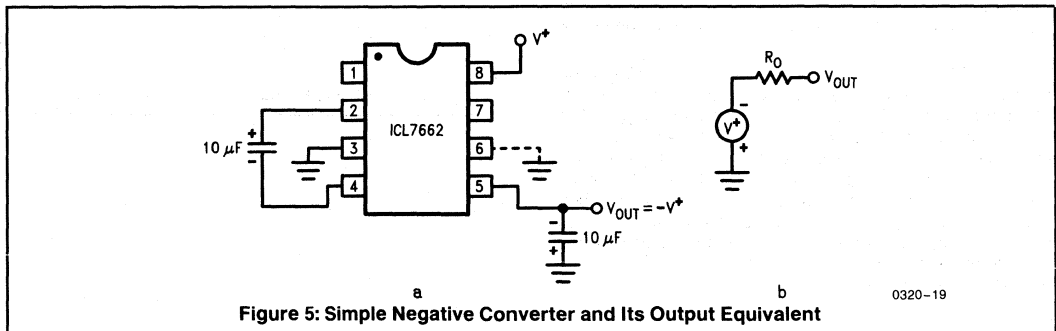
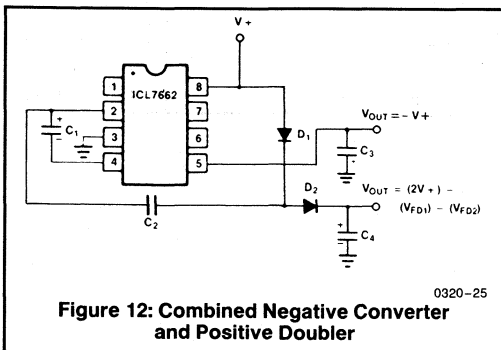

Figure 5: Simple Negative Converter and Its Output Equivalent
Figure 12: Combined Negative Converter and Positive Doubler
The majority of applications will undoubtedly utilize the ICL7662 for generation of negative supply voltages. Figure 5 shows typical connections to provide a negative supply where a positive supply of +4.5V to 20.0V is available. Keep in mind that pin 6 (LV) is tied to the supply negative (GND) for supply voltages below 11 volts.
Figure 12 combines the functions shown in Figures 5 and 11 to provide negative voltage conversion and positive voltage doubling simultaneously. This approach would be, for example, suitable for generating +9 volts and -5 volts from an existing +5 volt supply. In this instance capacitors C_1 and C_3 perform the pump and reservoir respectively for the generation of the negative voltage, while capacitors C_2 and C_4 are pump and reservoir respectively for the doubled positive voltage. There is a penalty in this configuration which combines both functions, however, in that the source impedances of the generated supplies will be somewhat higher due to the finite impedance of the common charge pump driver at pin 2 of the device.